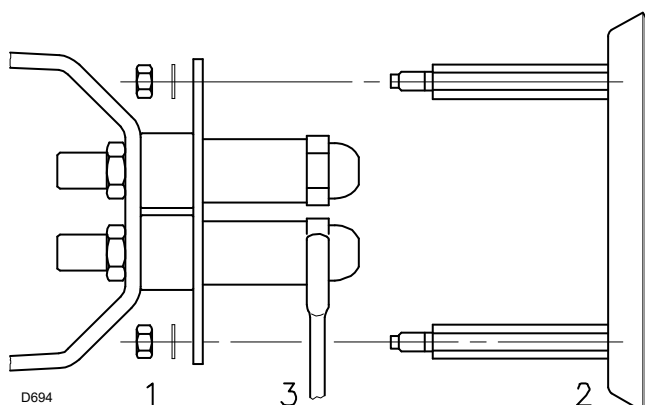

Fig. 12
- Remove the nuts 1)(Fig. 12) and the disk 2).
- Use spanner 3)(Fig. 12) to change the nozzles.